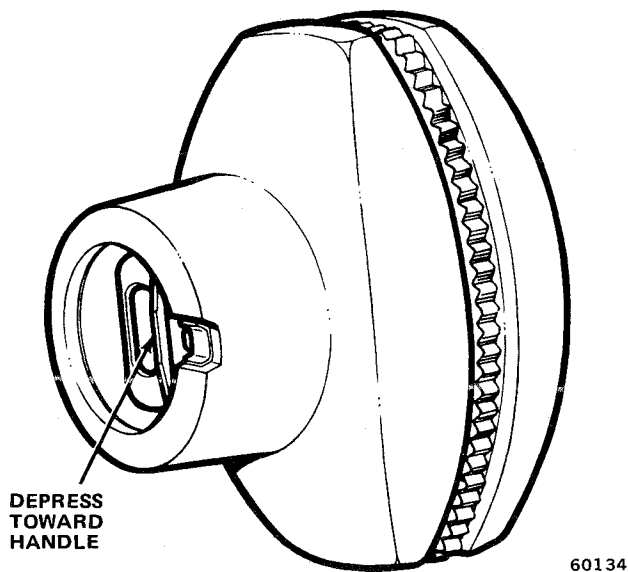

Fig. 3D-4 Fan Control Knob Locking Feature
(1) Rotate knob until slot in neck of knob is visible. Insert a small bladed screwdriver in the slot and depress spring metal clip toward knob. This will relieve tension on the spring metal clip and allow knob to slide off shaft (fig. 3D-4).
(2) Remove retaining nut and trim ring.
(3) Remove switch from instrument panel and disconnect wires.